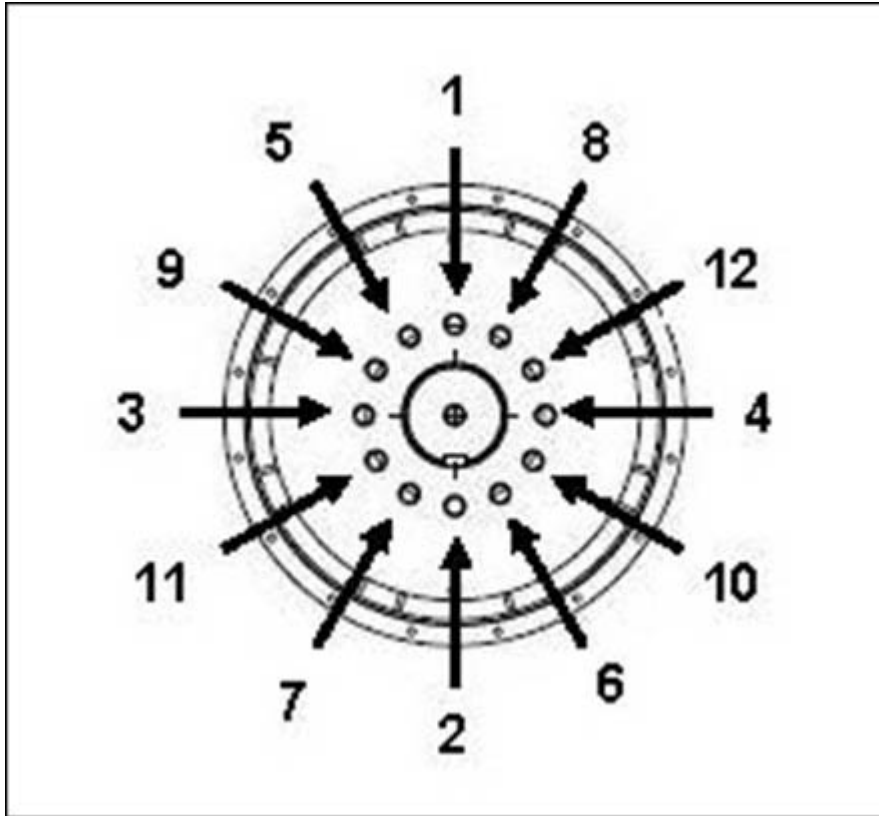

FIGURE 20. FIXING SEQUENCE TO HUB
4. If required, tighten the coupling disc bolts in the sequence shown in Figure 20 on page 38.